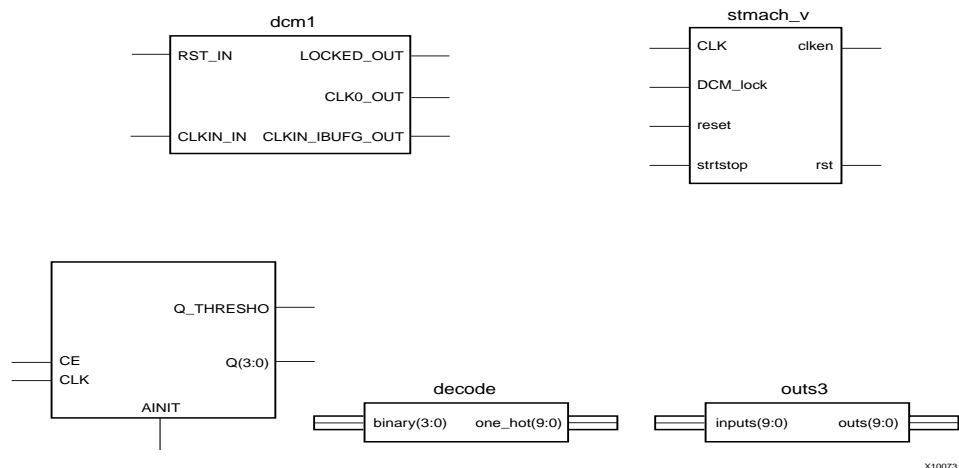

Figure 3-28: Placing Design Macros
4. Select the appropriate symbol, and add it to the Watch schematic as shown in Figure 3-28.